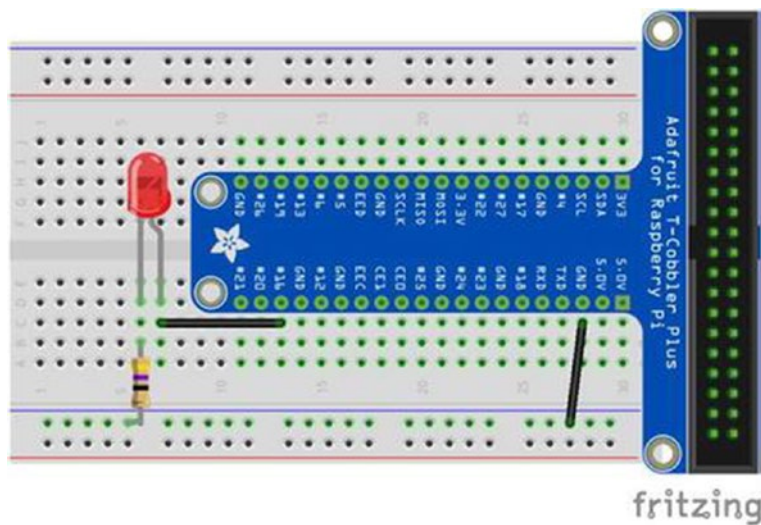

Figure 4-3. Circuit layout for the LED example
1. Attach the T-Cobbler as shown in Figure 4-3. One row of pins should be on either side of the split in the board. The placement is up to you; however, I generally attach it such that the ribbon cable header is off the board. This allows maximum access to the breadboard.